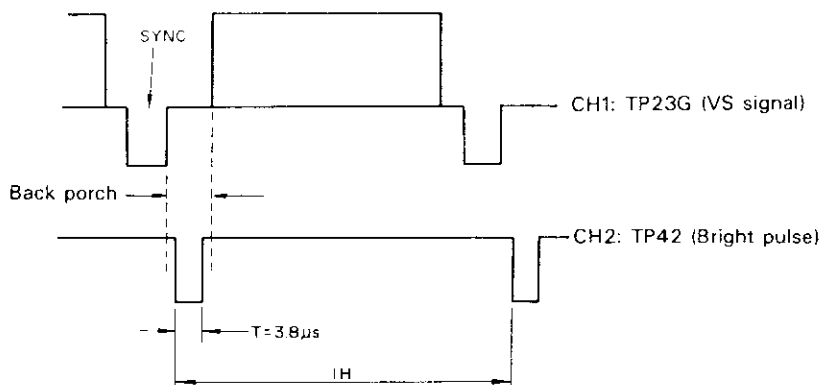

Fig. 77
- ① Set the "NTSC/RGB" switch on the front panel to the RGB position, and set the switches on the rear panel board (VB/TTL switch, EXT/GS switch, HD/VD positive/negative switch) to positions corresponding to the signal to be input.
- ② Connect the oscilloscope CH1 probe to TP23G and the CH2 probe to TP42 (Use a two-channel oscilloscope.)
- ③ Adjust VR106 so that the bright pulse width T becomes $3.8\mu s$ (Figure 77).
- ④ If the green mode with SYNC is used (Figure 77), adjust VR105 so that the bright pulse comes within the back porch period.